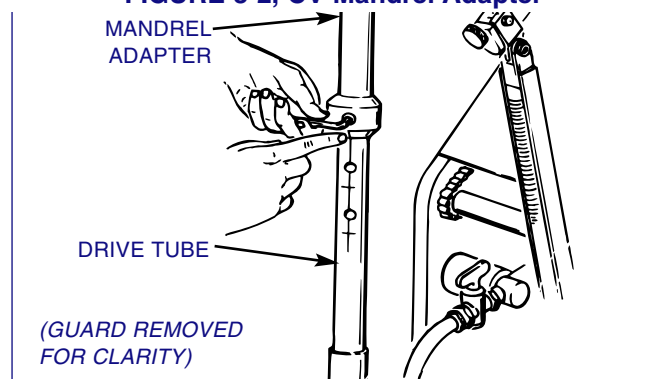

FIGURE 3-3, Install Mandrel Adapter
1. Slide Drive Tube end of Mandrel Adapter into Drive Tube of machine, and tighten set screw into one of holes (*see Figure 3-3*).